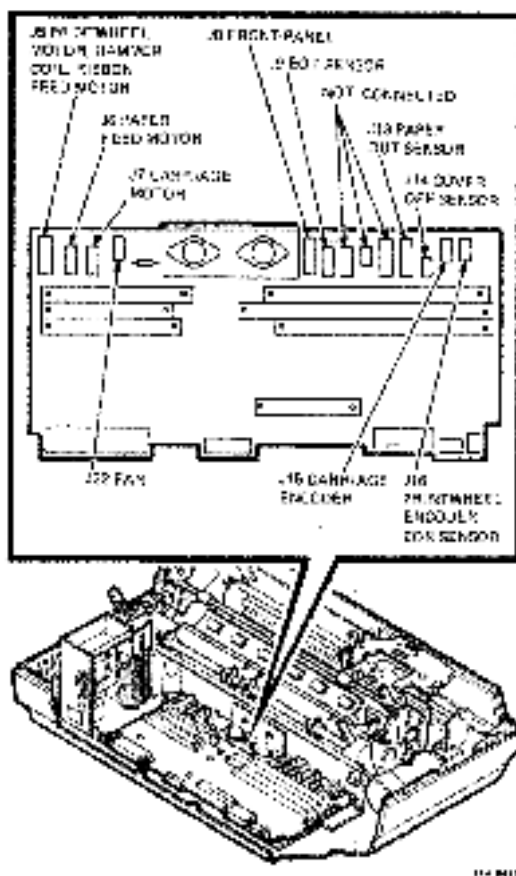

Figure 2-11 Motherboard Connector Locations
8. Disconnect the following cable connectors from motherboard (Figure 2-11).